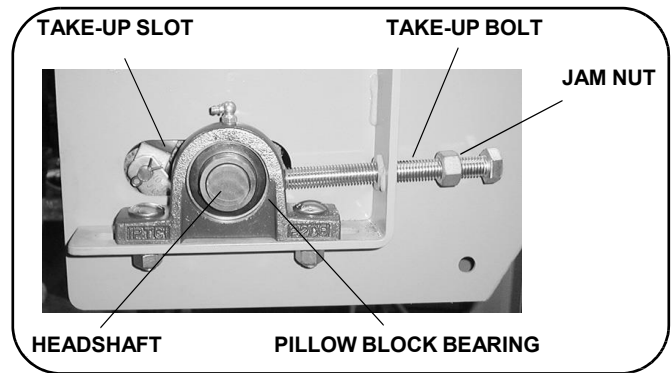

Figure 19. Pillow Block Bearing
6. Loosen the bolts securing the headshaft bearings to the conveyor, Figure 19 or 1H as applicable.